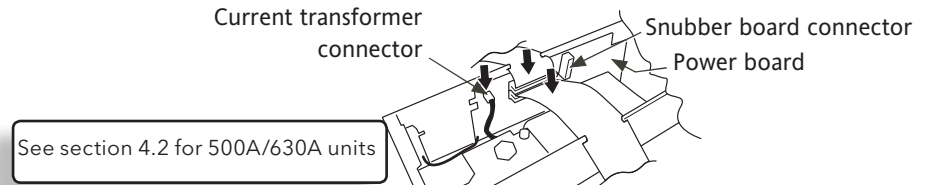

Figure 3.6a
3. Disconnect both ribbon cables and the snubber board and current transformer connectors (figure 3.6a).